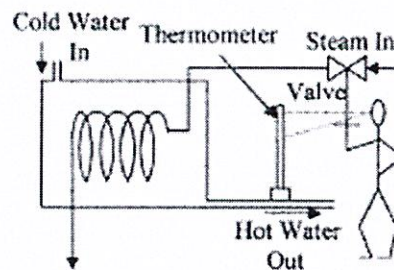

Figure 2
- (a) Identify the four basic components used to measure process variables as shown in Figure 2.